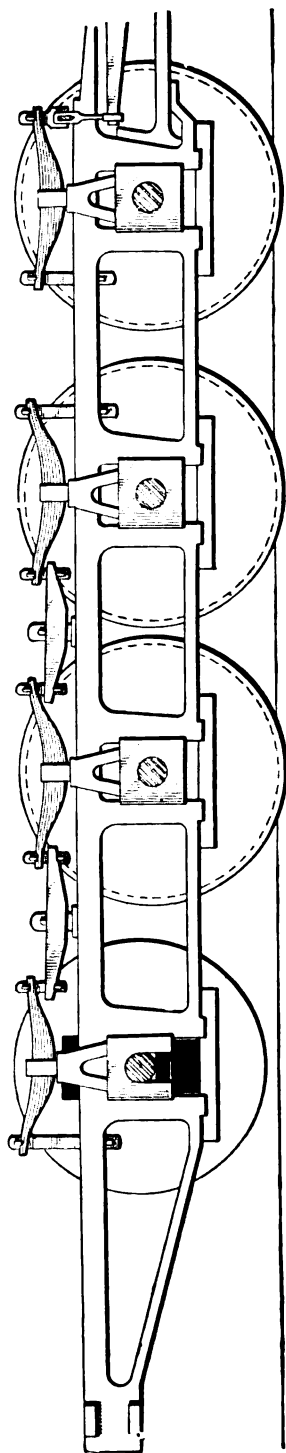

FIG. 56.
**124.** If no other damage is done, whenever the back tire breaks, run that wheel up on a wedge and block as indicated in Fig. 56. Then cut out the driver brake, as in previous cases, and proceed. However, should the second and main tires be blind, chain around the tail-piece of the engine frame on the disabled side and pass the chain up and across to the opposite side and secure it to the front corner of the tender frame, wedging it there as tightly as possible, so as to cause it to crowd the flange of the rear driver against the rail. In this event, the engine should be run cautiously, especially on curves and through frogs and switches.